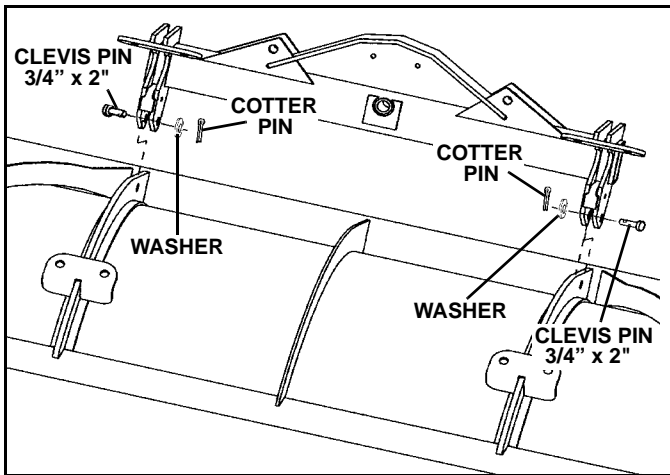

Figure 1-4
4. Place swing frame on blade and insert 3/4" x 2" clevis pin from blade parts bag. The ribs on either side of the center rib should be between the swing frame lugs. (See Figure 1-4).